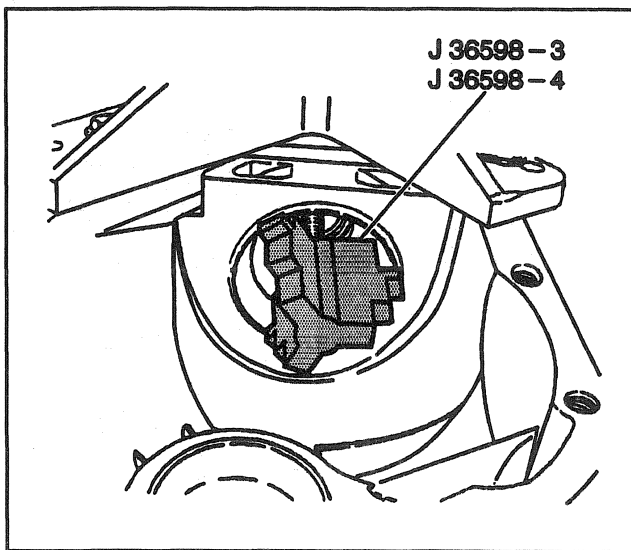

Figure 26—Installing the Inner Pinion Bearing Cup
- D. Install J 36598-3 (K1 and K2 models) or J 36598-4 (K3 models) on the forcing screw (Figure 26).
- Pull the bearing cup into place with the forcing screw (Figure 26).